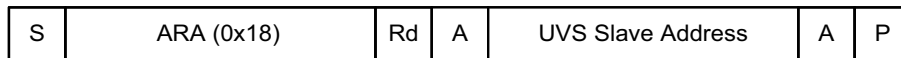

Fig. 10 - Command Format for Responds to an ARA
- (1) If the host implements the INT function, it performs a modified received byte operation to disengage VEML6070’s acknowledge signal and acknowledge alert response address (ARA), 0x18 (Hex). A command format for responses to an ARA is shown in Fig. 10.